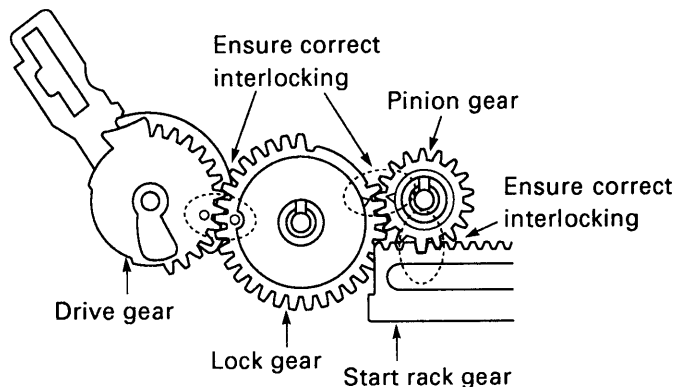

Fig.3-3-2
2. Check that the two hooks ③ have snapped into the mechanism chassis, and make sure that the two holes ④ in the cassette mechanism assembly are aligned with the two dowels ⑤ on the mechanism chassis.
3. Make sure that the big tooth on the pinion gear of the cassette mechanism assembly slots properly into the deepest gap in the start rack gear, as shown in Fig.3-3-2.
4. When fitting the two screws ①, use the torque gauge screwdriver (VHJ-0014). Give the screws a tightening torque of 5 kg/cm.
2. Apply grease (VHJ-0100) to the gear mounting shafts, all the gear teeth, and the cam part of the drive gear ⑥.
3. Ensure that the drive gear, the lock gear and the pinion gear interlock correctly, as shown in Fig.3-3-2.
4. Make sure the clamps ① and ② snap in to the gear holder ③.